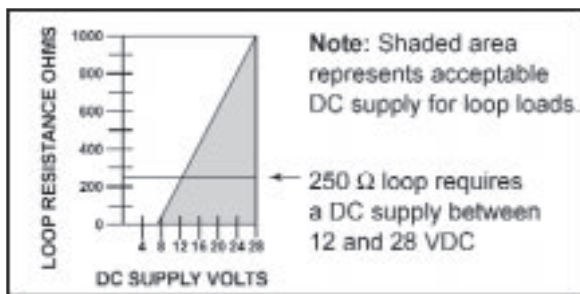

Figure 2. Load Limitations (4-20 mA Output Only)
- 4–20 mA into 1000 Ohms maximum (see Figure 2)